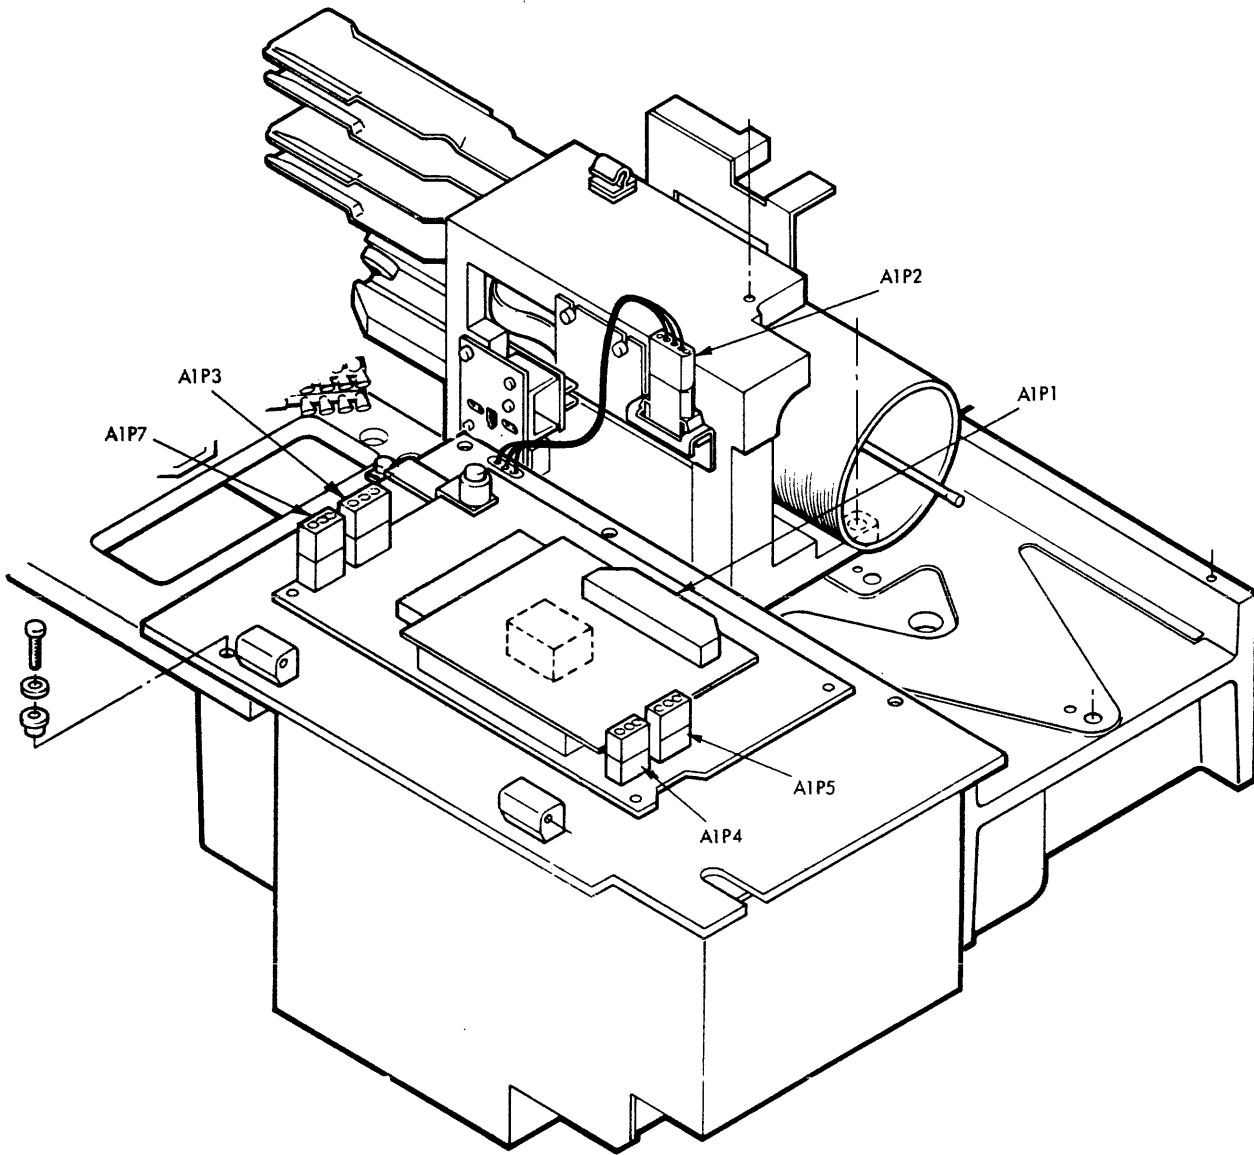

Figure 3-14. Power Supply Assembly
9. Disconnect A1P2, A1P3 and A1P7 (see figure 3-14).
8. Disconnect A1P1, A1P2, A1P3, A1P4, A1P7 (see figure 3-14).